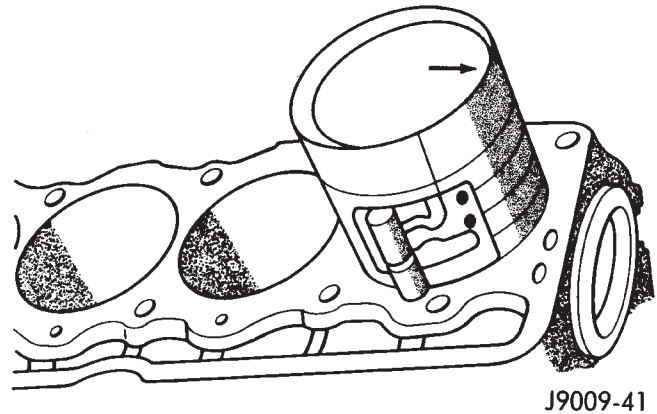

Fig. 60 Rod and Piston Assembly Installation
(4) Use a piston ring compressor to install the connecting rod and piston assemblies through the top of the cylinder bores (Fig. 60).
(5) Ensure the arrow on the piston top points to the front of the engine (Fig. 60).
(6) Raise the vehicle.
(7) Each bearing insert is fitted to its respective journal to obtain the specified clearance between the bearing and the journal. In production, the select fit